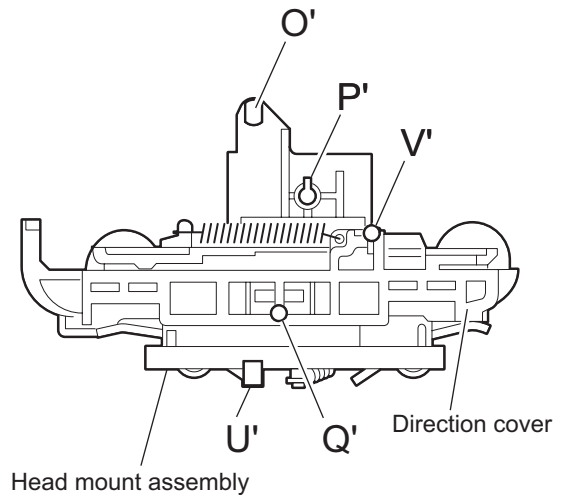

Fig.11
### 3.3.6 Reattaching the Play/ Record & Clear head (See Fig.11~13)
- (1) Reattaching the head mount assembly.
- b) Fit the bosses **O'**, **P'**, **Q'**, **U'** and **V'** on the head mount assembly to the holes **P** and **V**, the slots **O**, **U** and **Q** of the mechanism sub assembly (See Fig.11 to 13).